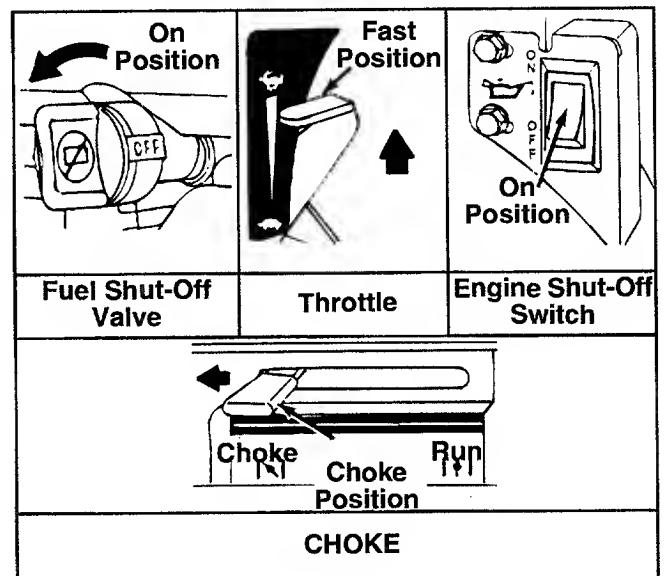

FIGURE 10.
- Open fuel shut-off valve by turning in direction of arrow. See figure 10.
- Place the throttle control lever in FAST position. See figure 10.
- Place the engine shut-off switch in ON position. See figure 10.
**NOTE:** If engine does not fire after three attempts, move choke lever halfway between CHOKE and RUN position and try again. See figure 10.
- Move engine shut-off switch to OFF position. See figure 10.